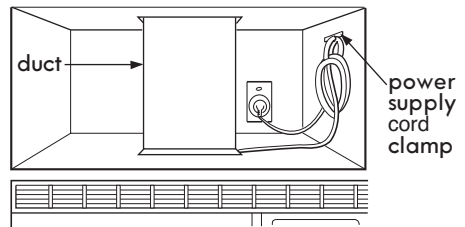

Figure 33
6. Use power supply cord clamp to bundle the power supply cord. Install the power supply cord clamp, using a screw as shown in Figure 33, to inside of the cabinet.